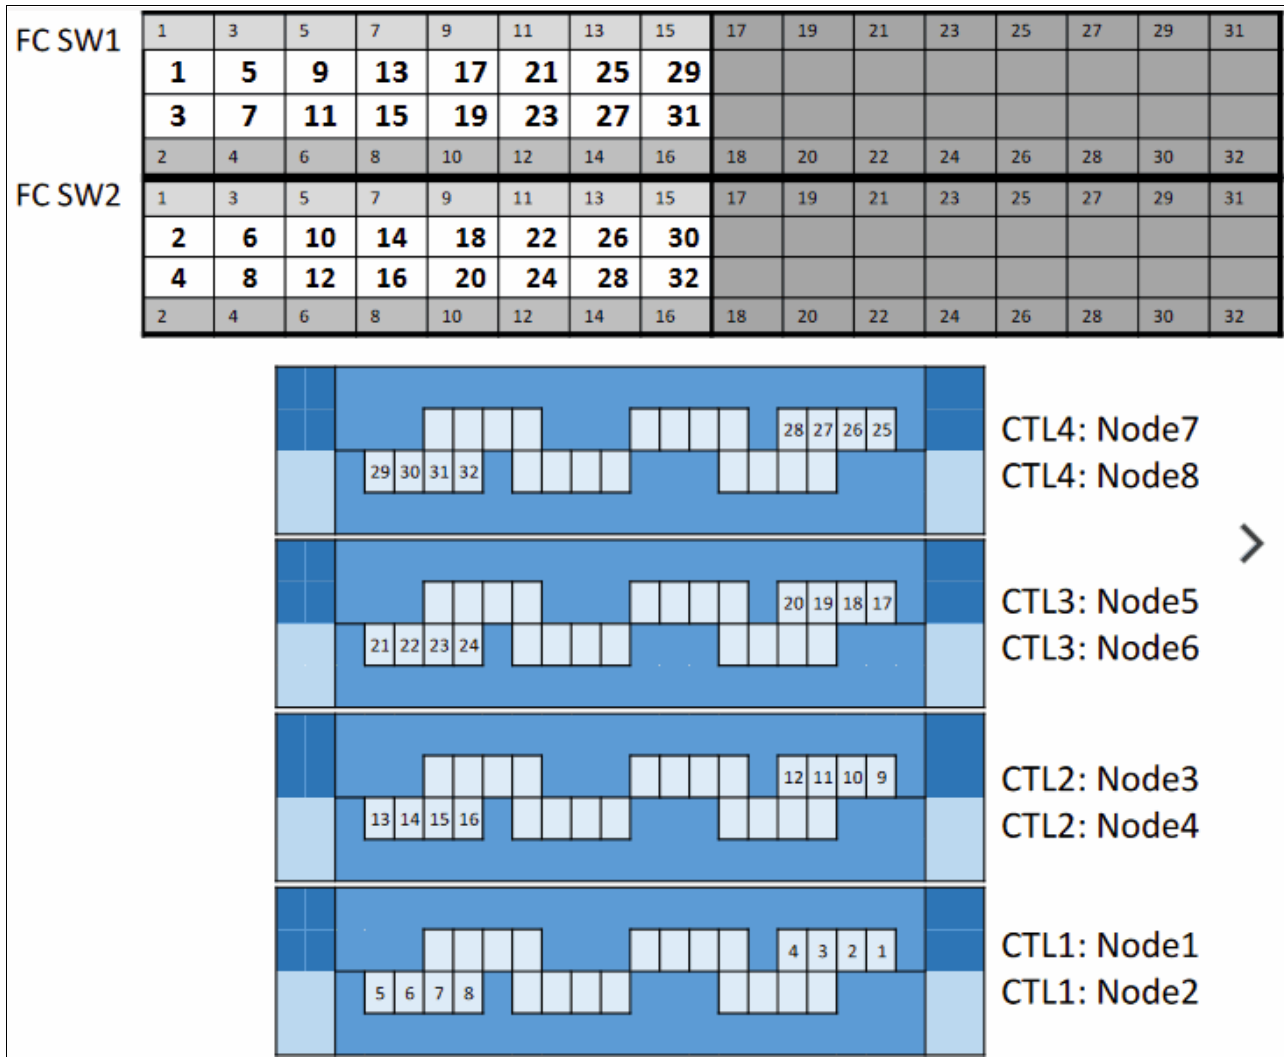

Figure 1-14 IBM FlashSystem 9200R Rack Solution FC with IBM SAN32C-6 switches
Figure 1-14 on page 21 shows the IBM FlashSystem 9200R Rack Solution inter-system FC ports and the connections to the IBM SAN32C-6 switch ports.
- ▶ Shows the SAN32C-6 cabling diagram, where the top part of Figure 1-14 represents the SAN32C-6 port configuration layout.